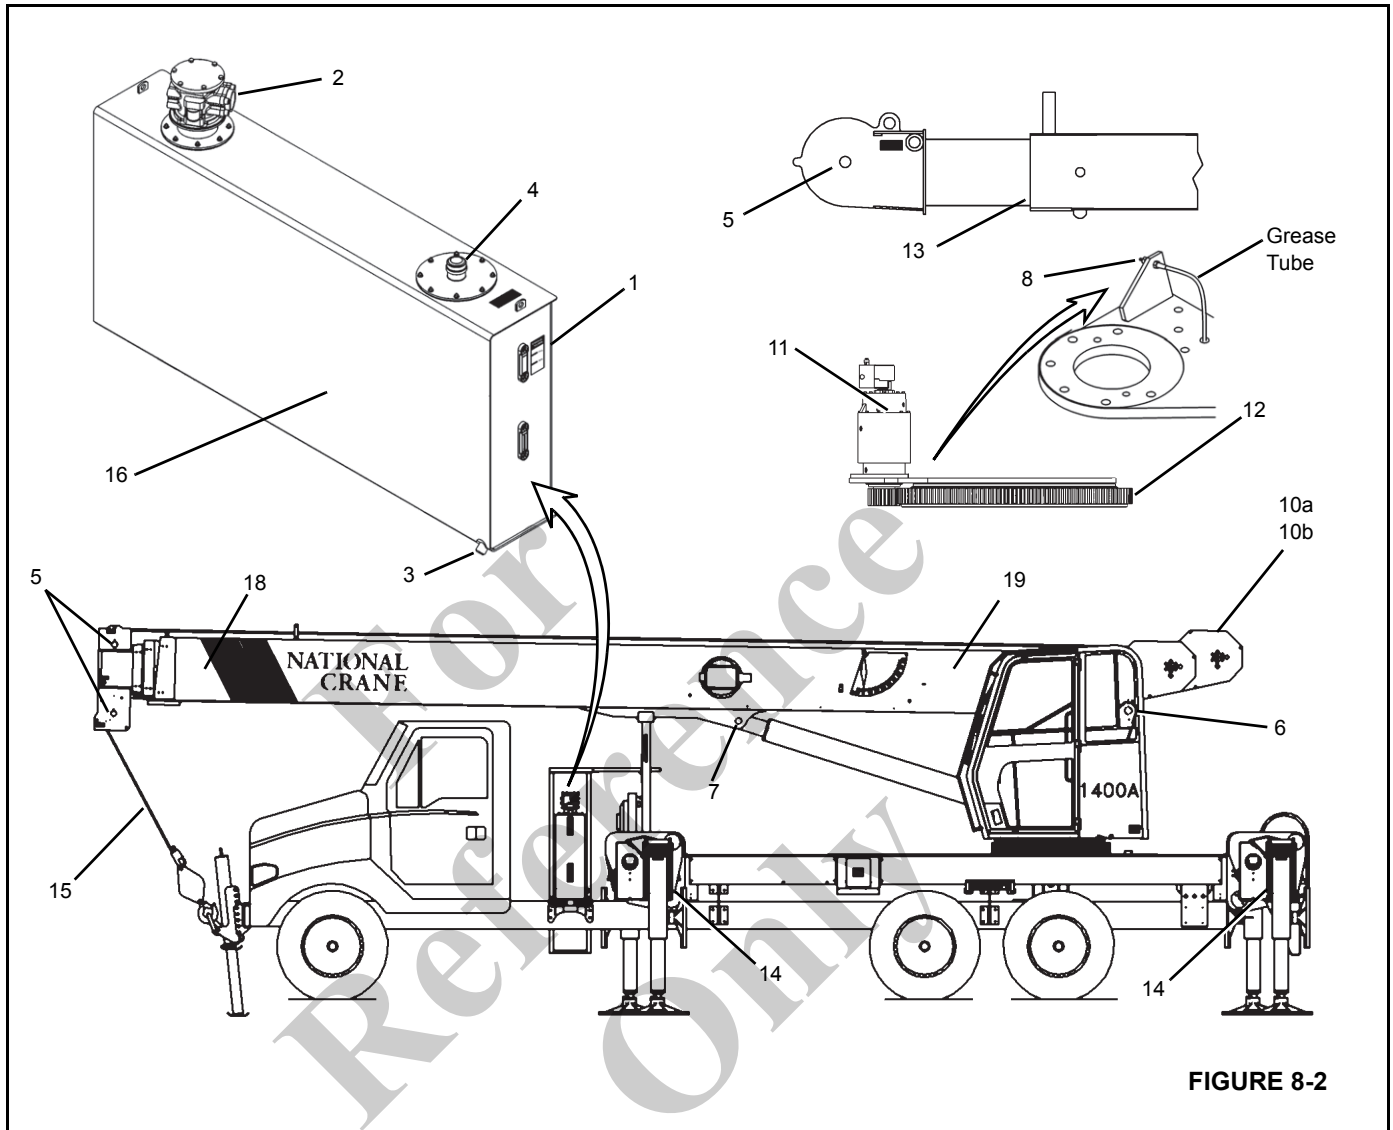

FIGURE 8-2
The following describe the lubrication points and gives the lube type, lube interval, lube amount, and application of each. Each lubrication point is numbered, and this number corresponds to the index number shown on the Lubrication Chart (Figure 8-2). Lube description and symbols are found in tables below.
2. Lubricate the pin for the extend cable sheaves (18) (Figure 8-2) until a small amount of grease extrudes from the pin. From in front of the boom, look back through the sheave case at the pin to determine the amount of grease.